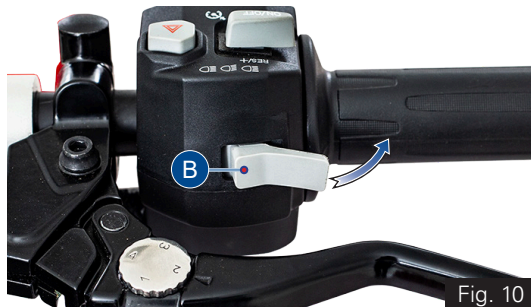

Fig. 10
B) Pass-by switch (ref. Fig. 10)